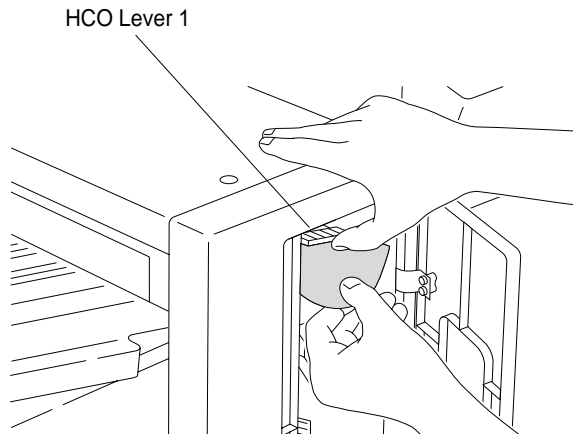

Figure 3-67 Clearing HCO upper section paper jam using Lever 1
4. If jammed paper is not visible, lift lever 1 to see if there is paper jammed there. Rotate knob 1 counterclockwise to move any paper into view. Remove any paper found as shown in Figure 3-67.